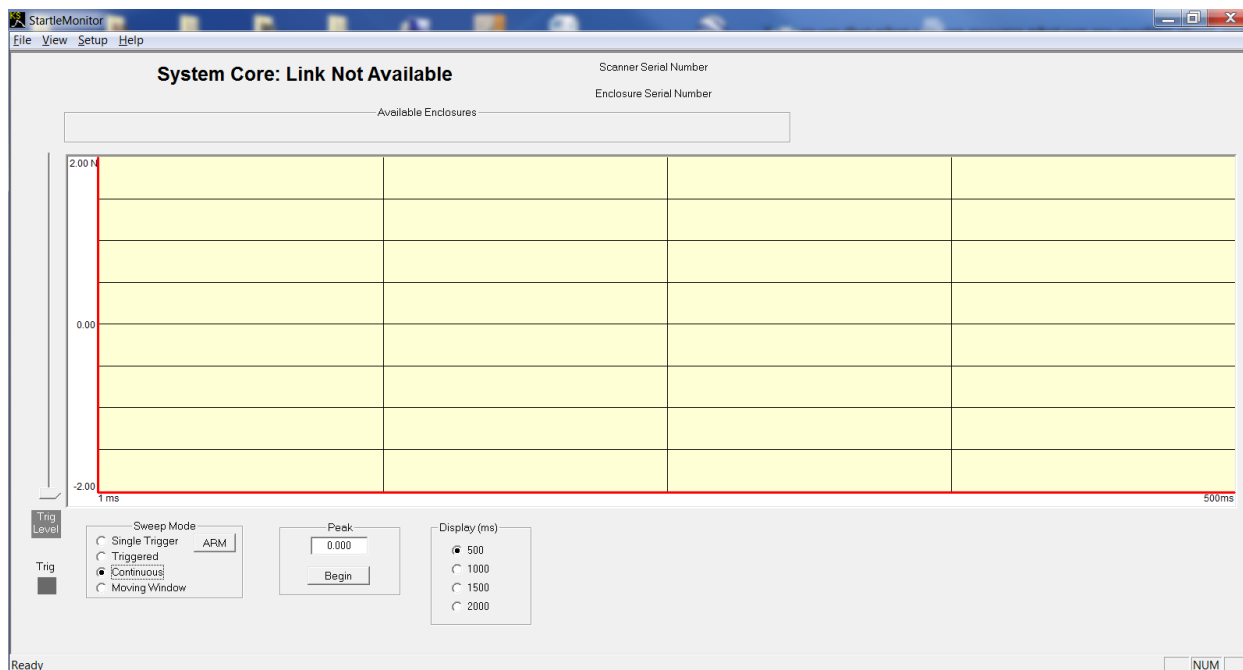

Figure 41 Diagnostic Communications Failure Screen
1. Select the **View** menu, and then click on **Diagnostic**. If there is a communications failure, a screen like Figure 41 will appear with the error message **System Core: Link Not Available** displayed.